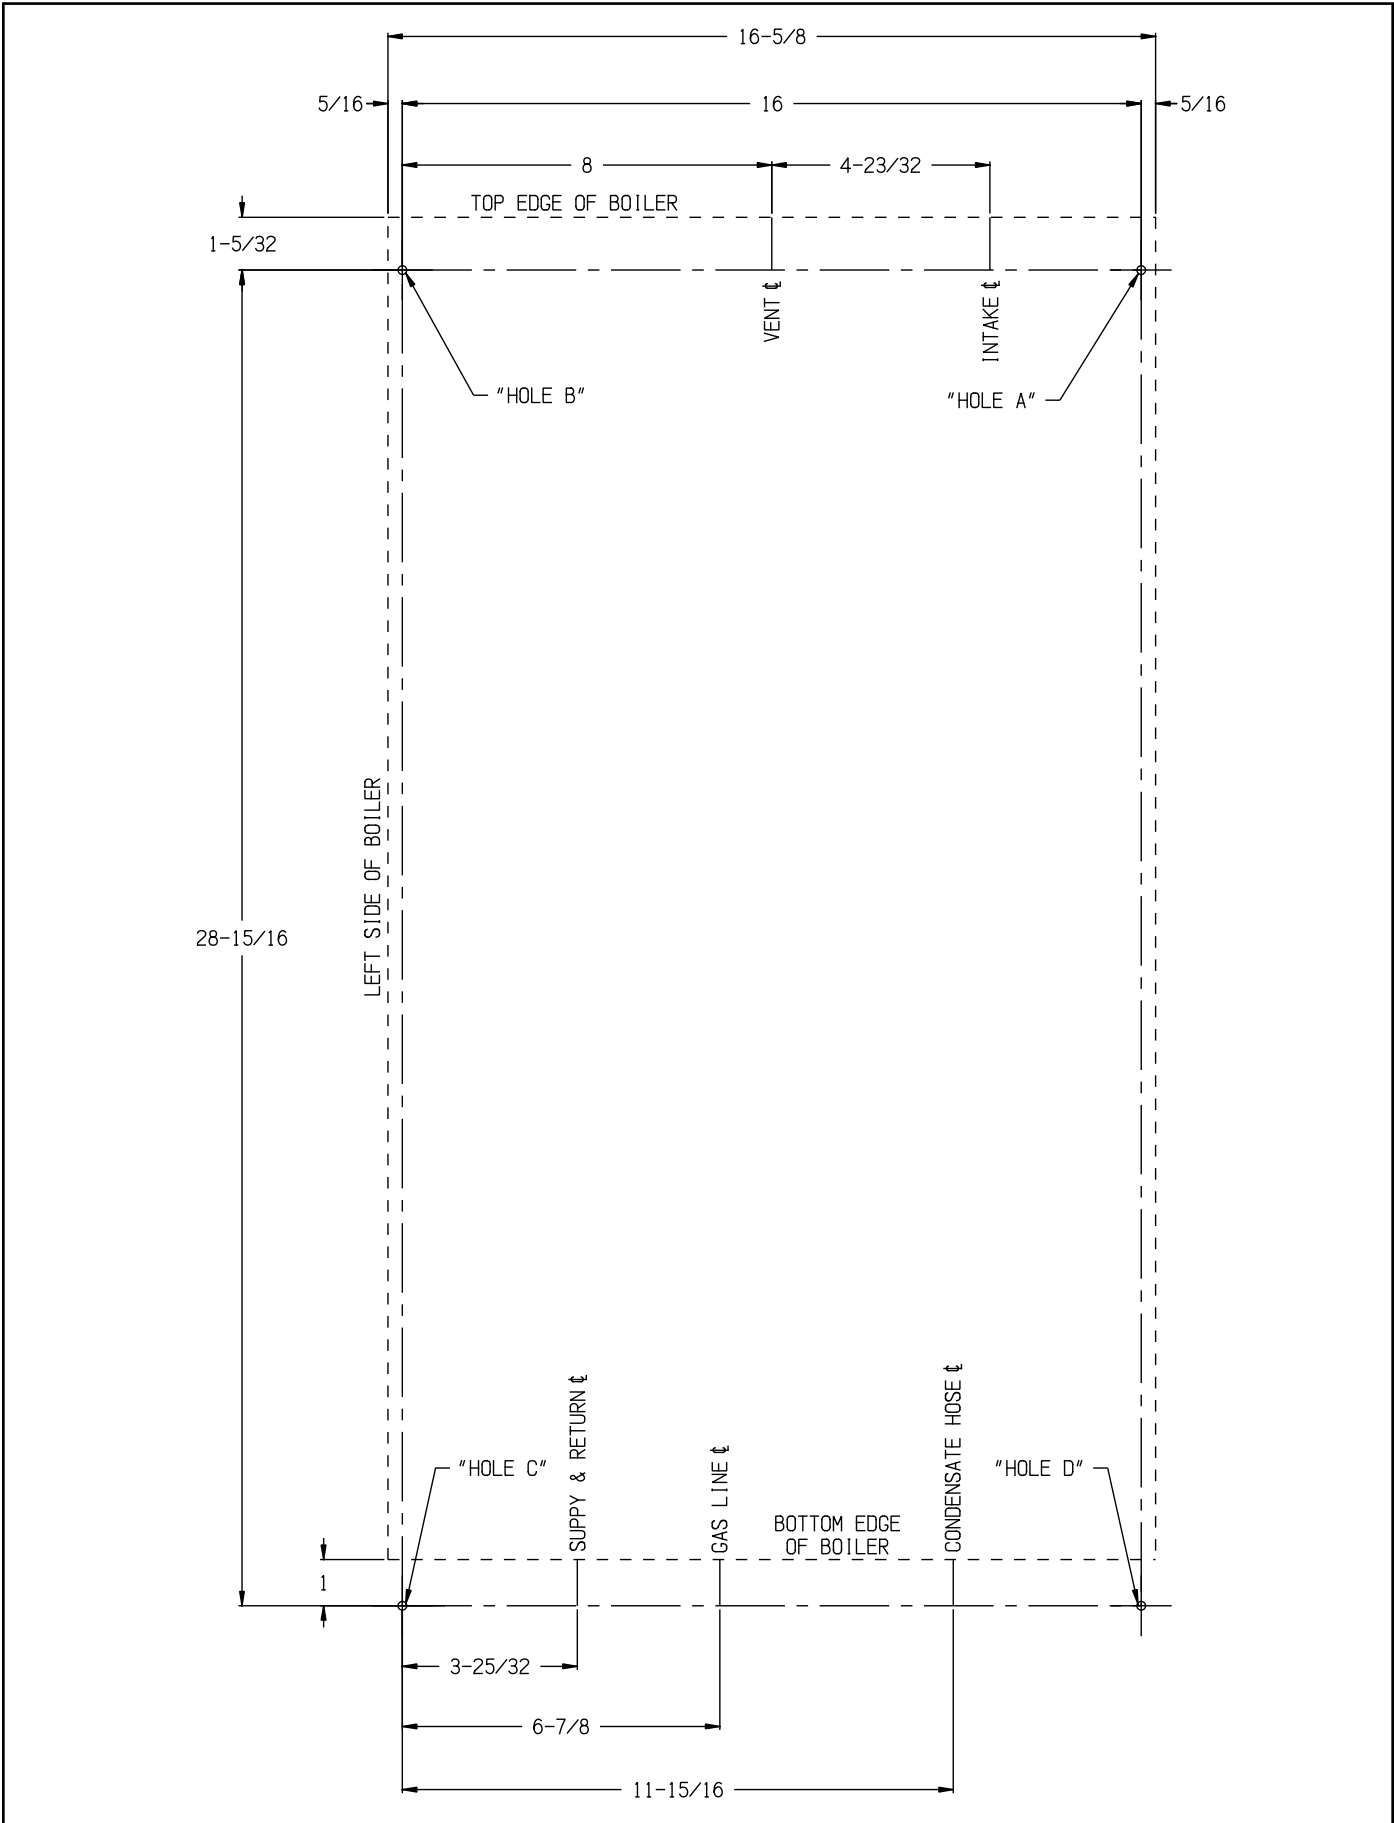

Figure 5.1 Wall Layout/Mounting Hole Location
- 5) Once a suitable location has been selected for the boiler, and any needed modifications have been made to the wall, use Figure 5.1 to locate holes "A" and "B". Make sure that the horizontal centerline of these holes is level. Holes "C" and "D" may also be drilled at this time or after the boiler is hung on the wall. If the $\frac{5}{16}$ " x 2" lag screws are used, drill $\frac{3}{16}$ " pilot holes.